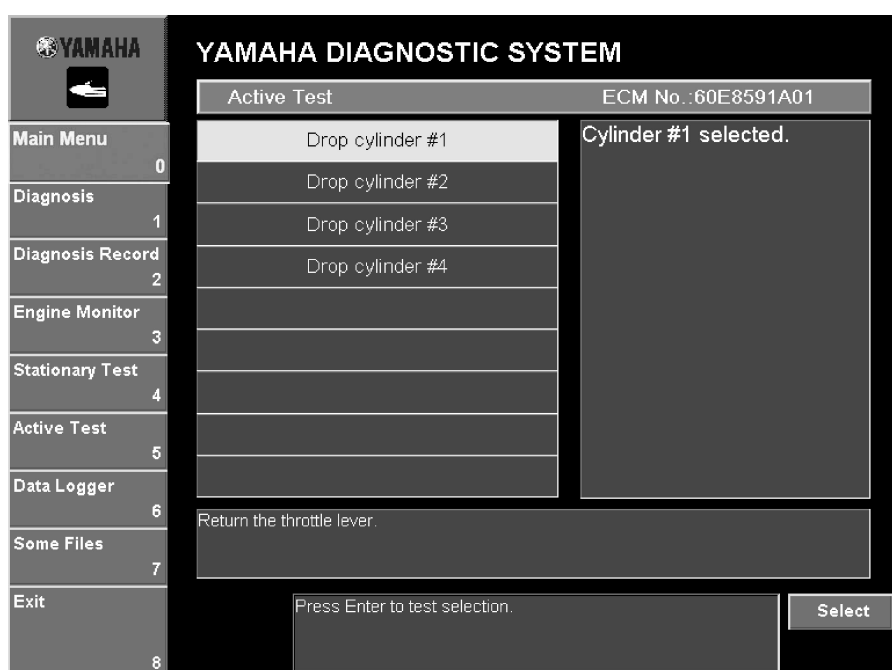

Fig. 93
1. Select which ignition and fuel you wish to cut by either clicking it or pressing the up or down arrow keys on your keyboard. (See fig. 93.)
2. Click the **Select** button or press the Enter key on your keyboard. (See fig. 93.)